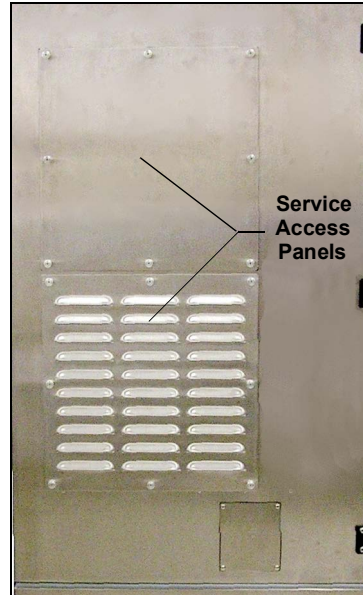

Figure 10-8. AE Left Side Exterior
6. On the exterior of the AE, remove the two service access panels on the left side of the AE (see Figure 10-8).